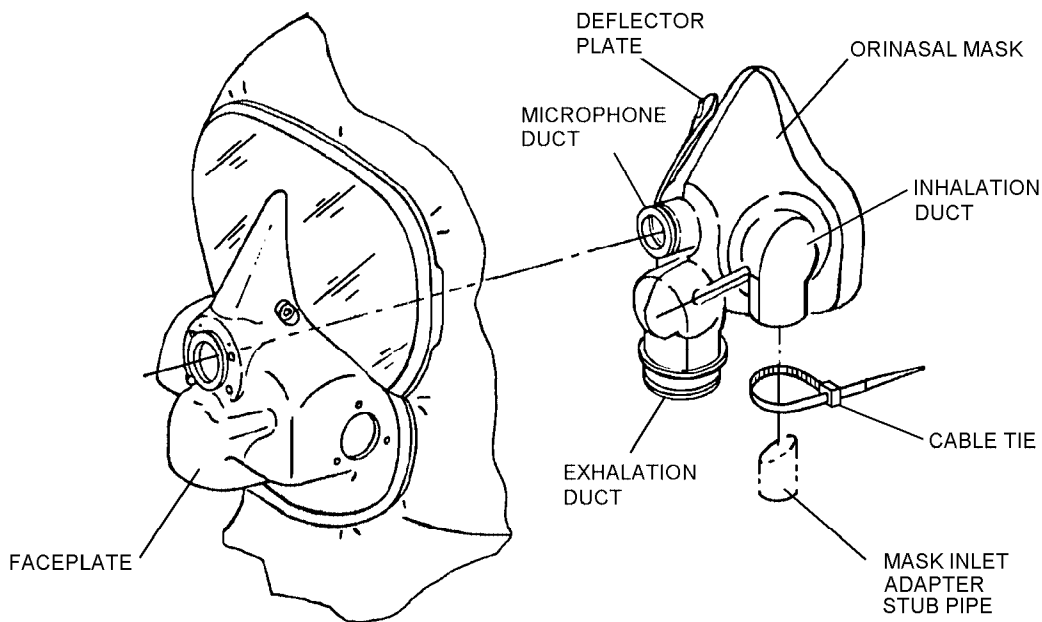

Figure 3-29. Faceplate/Orinasal Mask Cable Tie Installation
6. Orinasal mask inhalation duct connection to mask inlet adapter. Check cable tie for security of attachment (figure 3-29).